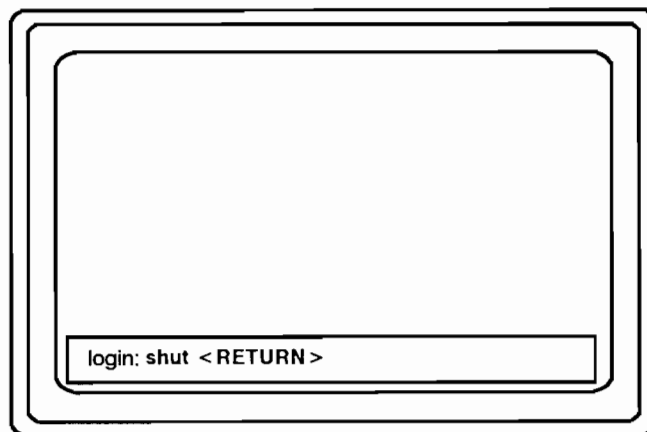

Figure 2-8. Shutting Down
2. Stop all processes by pressing `<CMD>` and entering the `shut` command at the "login" prompt as shown in Figure 2-8.